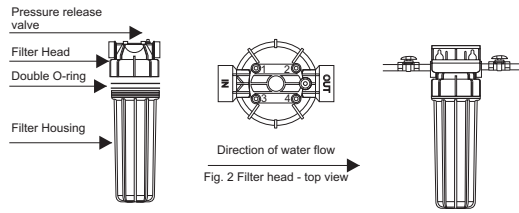

Fig. 1 Accessories for FHPR-B1 model
- Unscrew filter head from the filter housing (Fig. 1) using a wrench. To prevent damage, hold the wrench exactly in horizontal position relative to the filter housing.